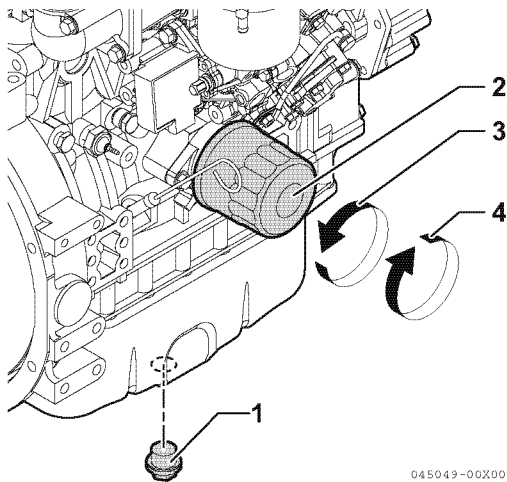

Figure 5-14
6. Remove the oil drain plug (1, **Figure 5-14**) from the engine oil pan. Allow oil to drain.
7. After all oil has been drained from the engine, reinstall the oil drain plug (1, **Figure 5-14**) and tighten to 139.8 - 47.0 ft·lb (53.9 - 63.7 N·m; 5.5 - 6.5 kgf·m).
1. Turn the engine oil filter (2, **Figure 5-14**) counterclockwise (3, **Figure 5-14**) using a filter wrench.
3. Lightly coat the gasket on the new oil filter with engine oil. Install the new engine oil filter manually by turning it clockwise (4, **Figure 5-14**) until it contacts the mounting surface. Tighten to 14 - 17 ft·lb (19.6 - 23.5 N·m; 2.0 - 2.4 kgf·m) or one additional turn using the filter wrench.